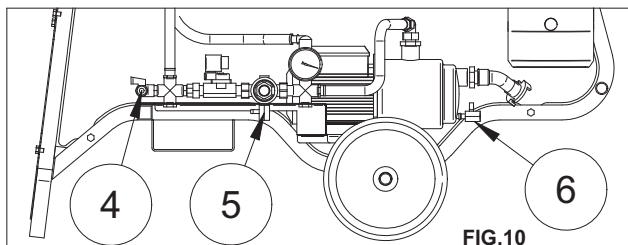

FIG.10
If there is any risk of freezing, open the three valves (ref. 4-5-6) as shown in fig.10 and drain all water from the circuit.